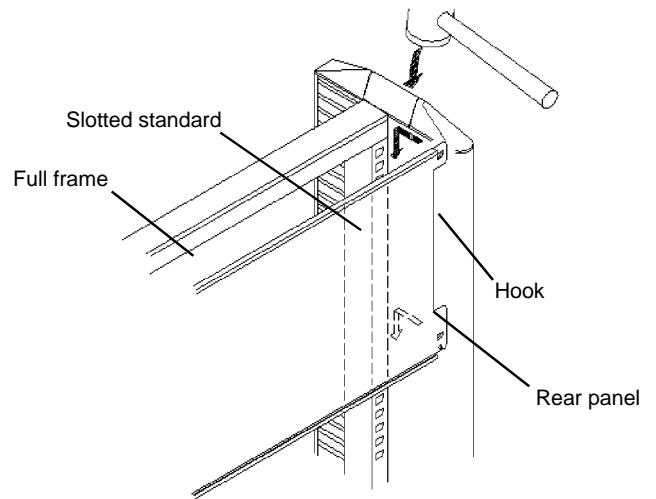

Figure 1
1. Install the **Rear Panel** by inserting the hooks on either side of the panel into the Slotted Standards of the Full Frame and pushing down. To assure that the hooks are seated, tap the top corners with a plastic mallet or equivalent. See **Figure 1**.